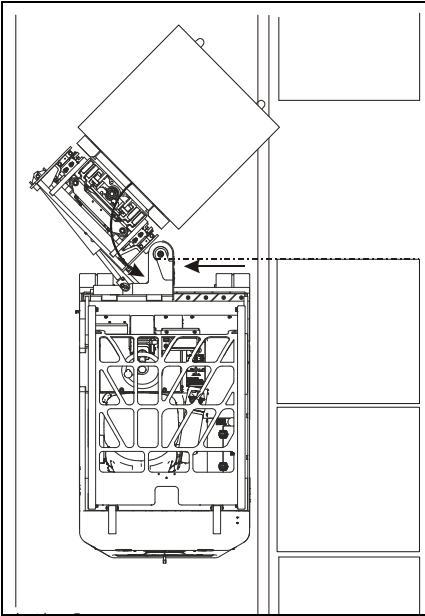

Figure 4-15: Retrieving the Pallet
12. Very slowly move the truck in reverse, simultaneously pivot the load to the left (approx. 45°) and rotate it out of the rack area. See Figure 4-15.